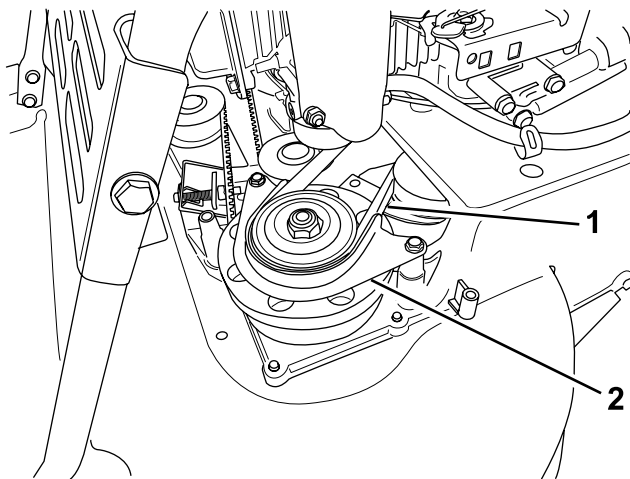

Figure 41
7. Remove the BBC belt guard (Figure 41).